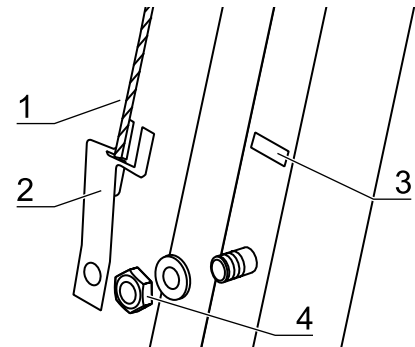

Fig. 33,
6. **Fig. 33:** Remove the front door covers [3]. The covers are secured with screws to the lower crossmember [2] at the side of the frame and at the corner [2].